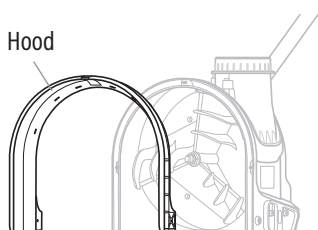

Fig. 2A
2. Keep in line with the hood and the groove on the bottom of the attachment. (Fig. 2A)